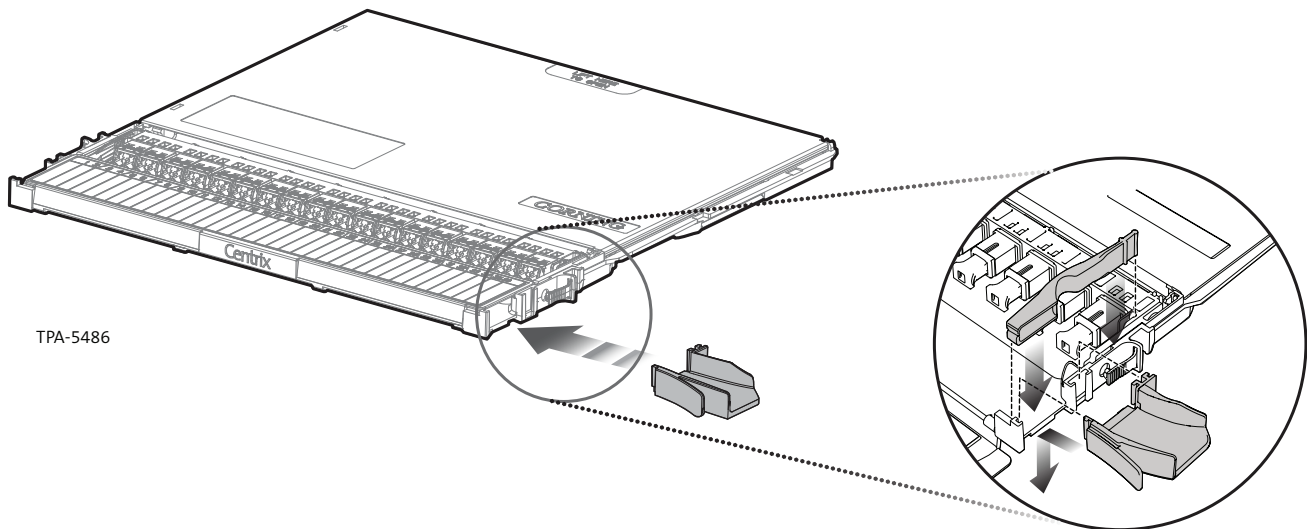

Figure 11
Step 1: In a 19-in rack or 23-in frame installation only, distribution jumpers may be routed either side of the cassette to their destination. If routing jumpers to the right, install the right-hand waterfall kit (CTX-KIT-RT-DH) to support the jumpers (Figure 11).